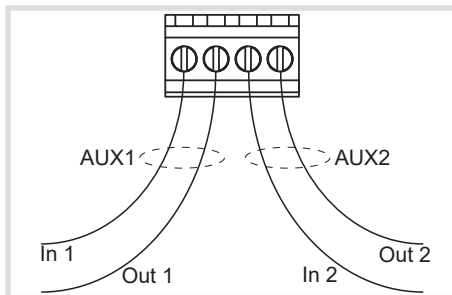

Figure 6: Connecting terminal (AUX) for external signal generator
The device has two potential-free contacts AUX1 and AUX2 (figure 6) e.g. that a KNX radio binary input can be connected to. In this way, for example, an alarm signal can be sent to the KNX bus. The alarm signal remains activated until the alarm (see Hazardous situation, water leakage) is acknowledged by pressing the button (3) on the sensor unit. The wiring of the potential-free contacts and their meaning is shown in table 3.
- Connect cooker supply cable 1-phase (17) to the connection terminals **IN** (22/23/29) of the power control unit. When doing so, first connect the earth conductor.
- Insert the connection cable (30) through the cable entry (10).
- Fix strain relief (26).
- Connect the connection cable 1-phase (30) to the connection terminals **OUT** (22/23/28) of the power control unit. When doing so, first connect the earth conductor.
- Optional: Insert water leakage sensor into the connection socket (12) of the power control unit (9) (see Mounting Water Leakage Sensor).
- Fasten casing cover (13) using the fastening screws (14) on the lower casing.
- Optional: Connect external signal generator to potential-free contact (18) (Figure 6).